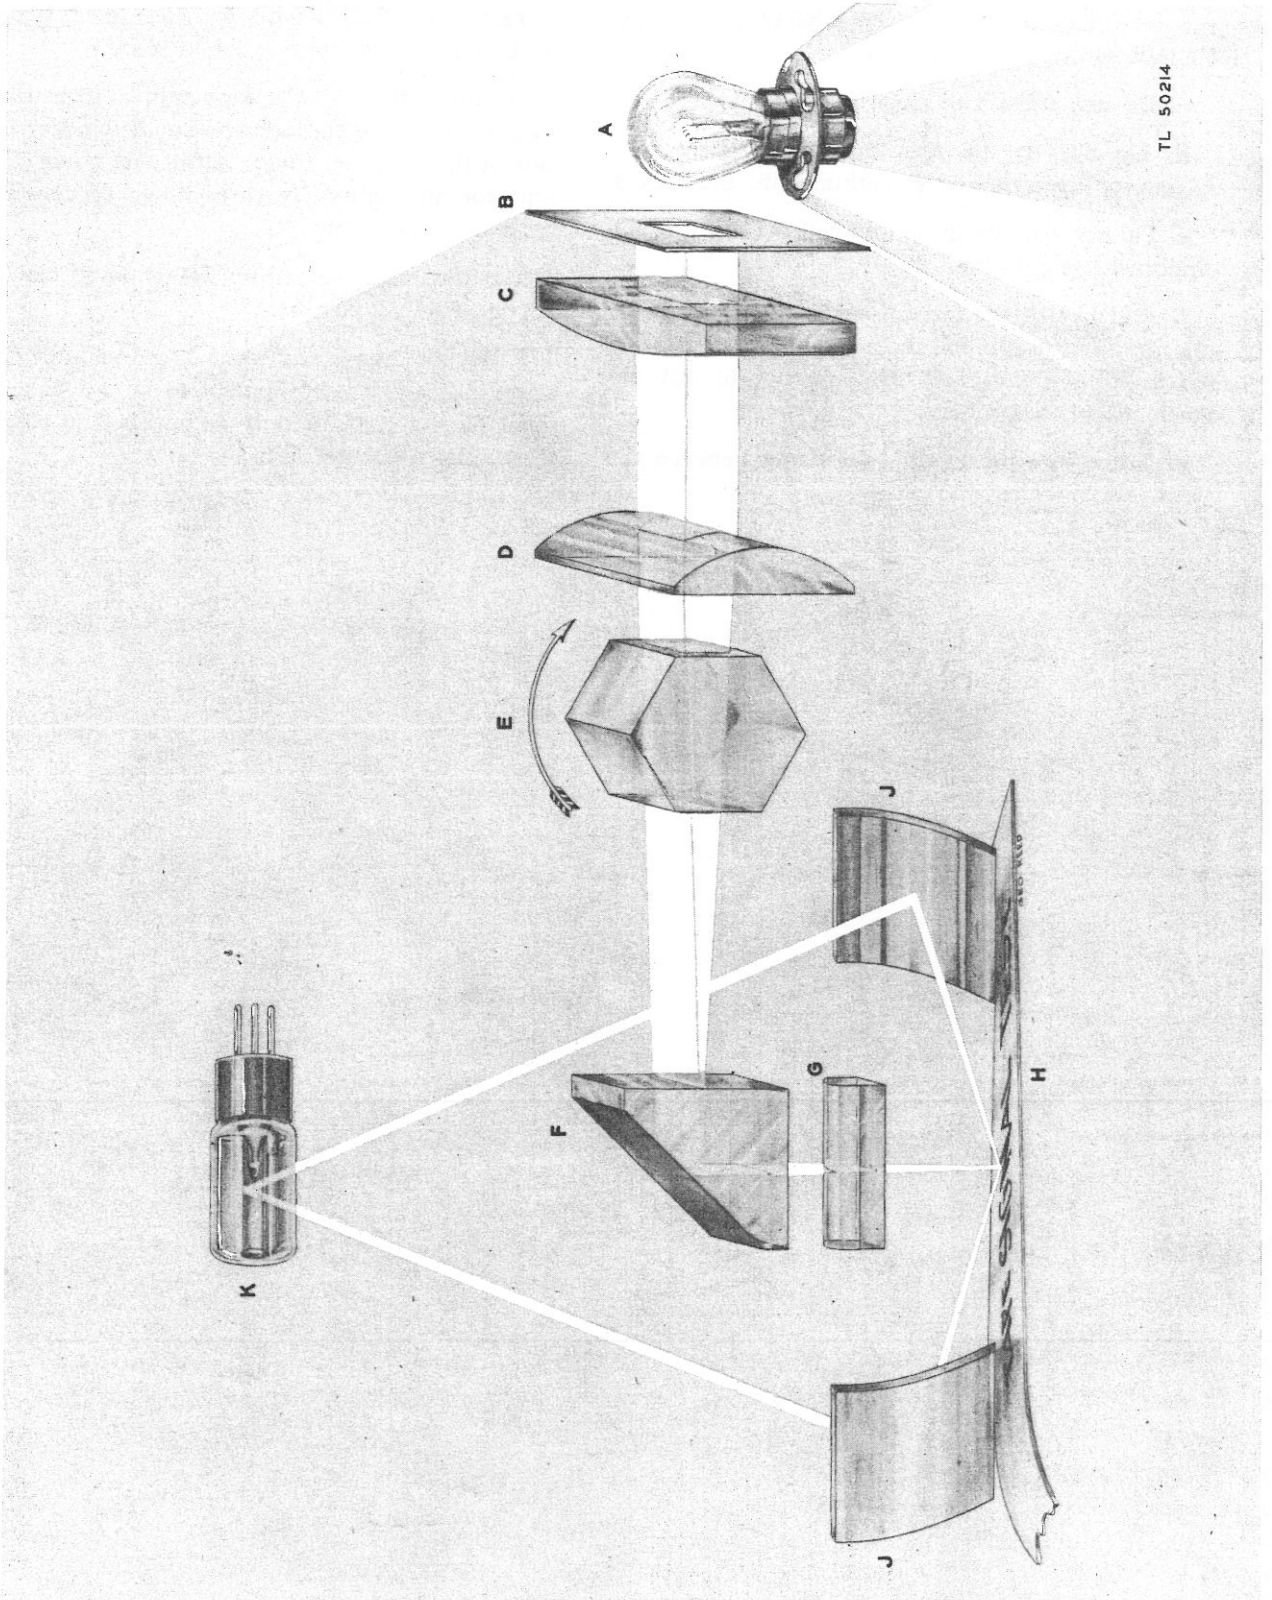

Figure 16—Optical-system light-beam path
(1) Light from the exciter lamp A (B201)¹ (fig. 16) passes through the lenses C and D, prisms E and F, and lens G to the tape H. The lenses focus the light to a small spot. The triangular prism F bends the light so that its path is crossed by the tape. The rotating hexagonal prism E changes the path of the light, causing the scanning action across the tape (sub-par. *b* below).
(2) The light beam, as it strikes the tape, is reflected upward from the tape H to the two concave mirrors J, and from the mirrors to the sensitized portion of the photoelectric cell K (V201). Since the pinpoint of light traversing the surface of the tape alternately crosses black and white portions when a message has been written on the tape, the amount of light reflected to the photo-cell will vary.
(3) As a black line is crossed or scanned by the light beam, almost no light will be reflected to the photo-cell, and the photo-cell will pass very weak current. As a blank portion of the tape is scanned by the light beam, the white paper reflects a considerable amount of light to the photo-cell, resulting in the passing of a stronger current by the cell. These alternate *black* and *white* impulses are the